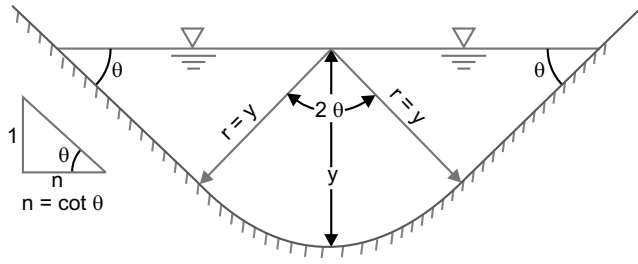

Fig. 10. Standard lined triangular canal section.
Q. 10. Fig. 10. shows a standard lined triangular section. The section consists of a triangular section of side slope 'n' horizontal : 1 vertical with its bottom being rounded off by a circular curve of radius equal to the full supply depth. For such a channel calculate fully supply depth corresponding to a full supply discharge of $20 \text{ m}^3/\text{s}$. The side slopes are 2 horizontal : 1 vertical, the longitudinal slope is 1 in 2500 and Manning's $N = 0.018$.